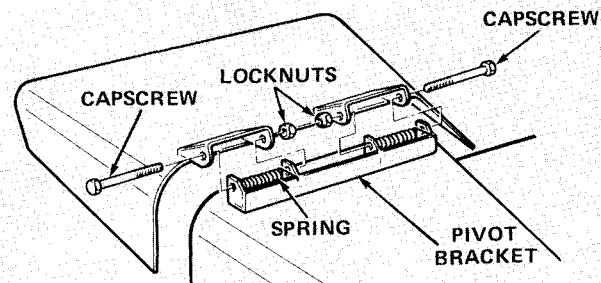

Figure 3
1. Remove capscrews, locknuts, and springs securing deflector mounts to pivot bracket. Remove deflector (Fig. 3).
2. Remove carriage bolts, lockwashers, and nuts securing pivot bracket to housing (Fig. 3).